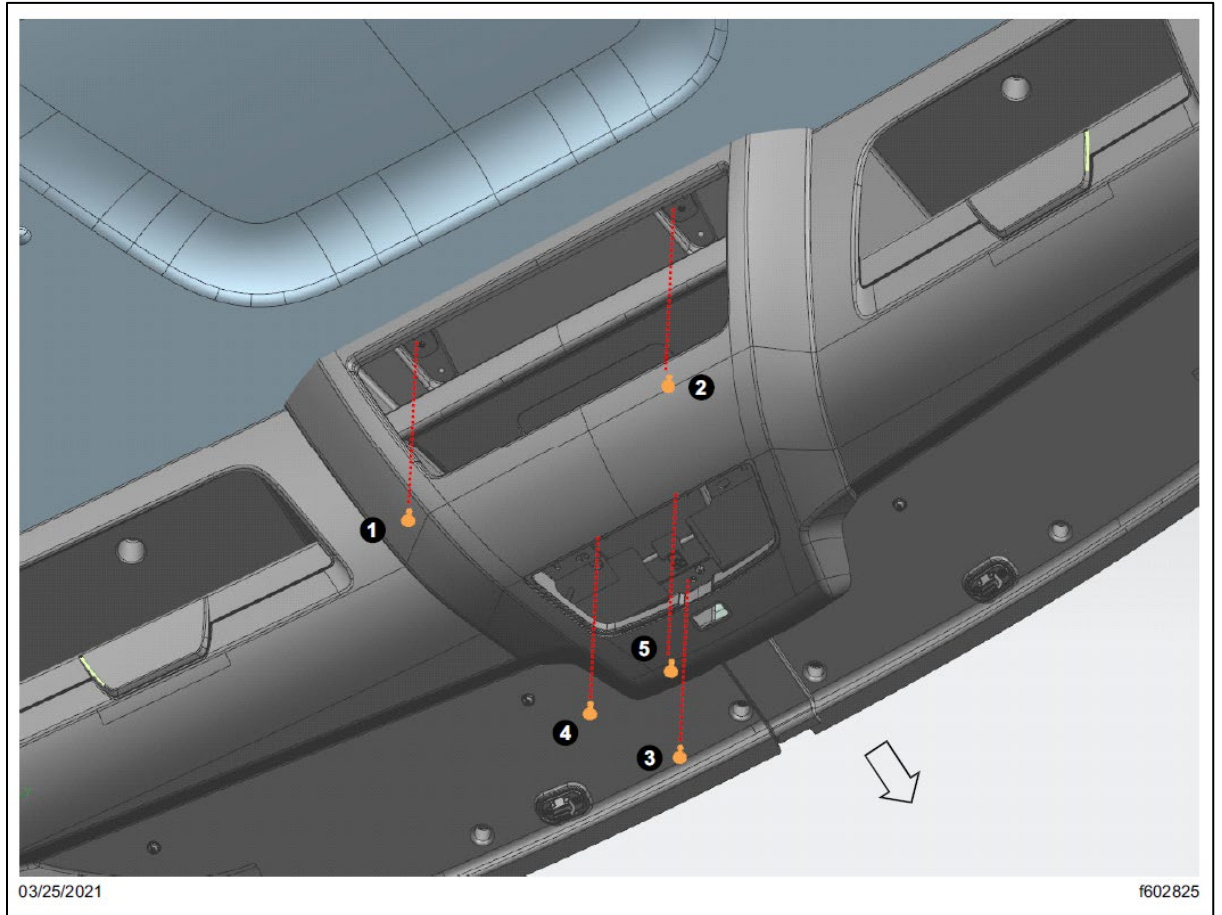

Fig. 32, Center Bezel Fasteners Installation
- 7.7. Install the five fasteners that attach the center bezel to the center overhead storage bin. Tighten the fasteners 5 to 7 lbf.ft (6 to 9 N.m) as per the sequence shown in Fig. 32.